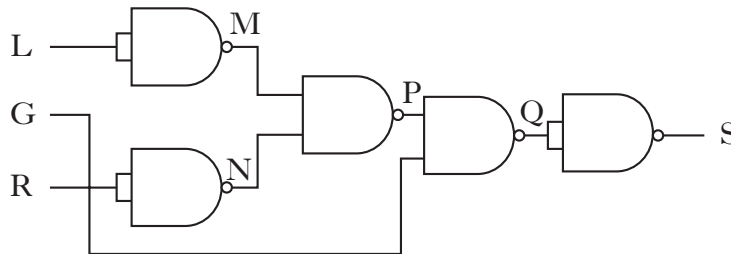

Figure Q1(b)
- (c) Draw and complete a truth table for the logic system shown in Figure Q1(b). Include the intermediate logic values M, N, P & Q. **5**
- (d) Draw a logic system equivalent to that shown in Figure Q1(b) using only two-input AND and OR gates. **3**